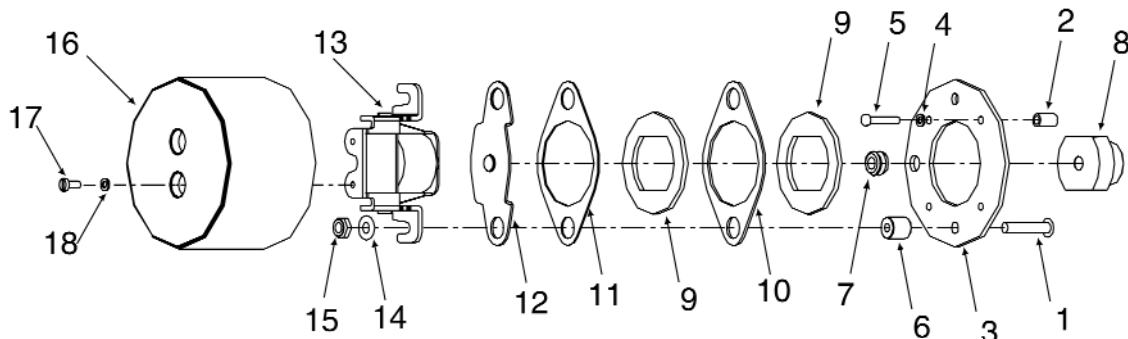

Figure 5. Brake Assembly Components
1. Disconnect solenoid (25) from circuit and remove cover (16).
2. Remove locknuts (15), washers (14), operator assembly (13), pressure plate (12), stationary disc (11), friction disc (9), stationary disc (10), and friction disc (9).
3. Replace worn discs and assemble in reverse order. Discs must slide freely on hub (8).
NOTE: Stationary disc (10) is $.060$ in. thick, and must be in the location shown in Fig. 5. Stationary disc (11) is $.030$ in. thick, and must be located as shown.
4. Before installing operator assembly (14) turn adjusting screw (23)